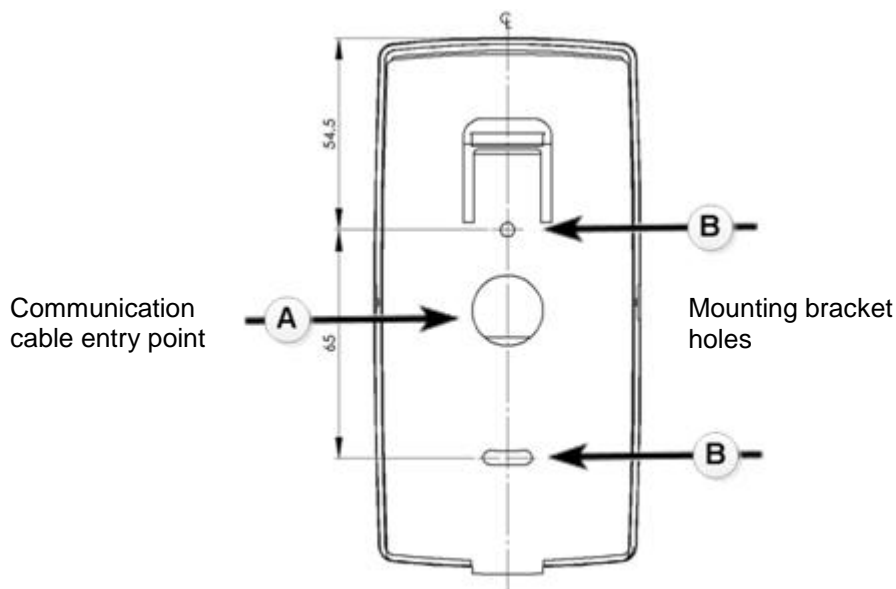

Figure 3-1: UIU base view
1. Place the wall mount bracket against the wall, ensuring that the unit is level and that the communication cable can pass through the cable entry hole (*Figure 3-1-A*).
2. Mark and drill 6mm holes for the two mounting holes and insert the wall plugs (*Figure 3-1-B*).